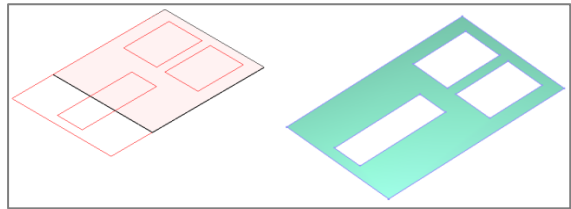

Fig. B.13. Highlight the changes with red lines
*Updating the geometry of the contours of plate elements means highlighting changes with red lines on the current contour of the element (Fig. B.13).*